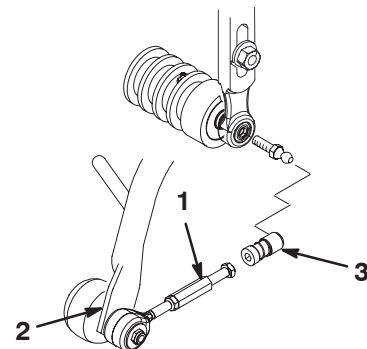

Figure 18
7. Slide the sleeve back on each ball joint receiver and hook the receiver onto the cutting unit ball stud (Fig. 18).